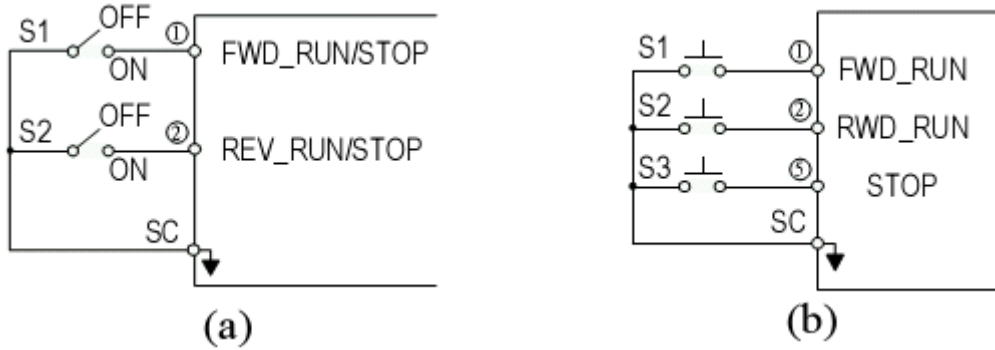

Fig.4-31 The Difference Operation Methods of 2-wire Running
- The standard 2-wire operation connection diagram as Fig.4-31(a),When S1=ON FWD